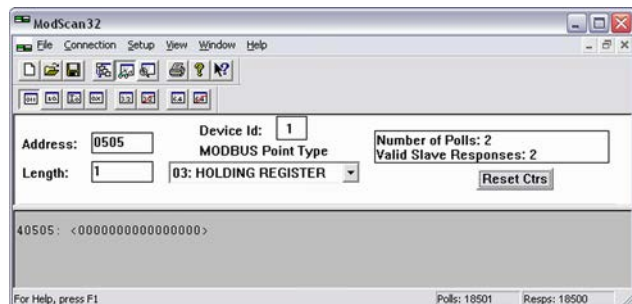

Fig. 249: ModScan32 single bit view
1. Using the "display options" set the format to binary to view single bits ( Fig. 249).